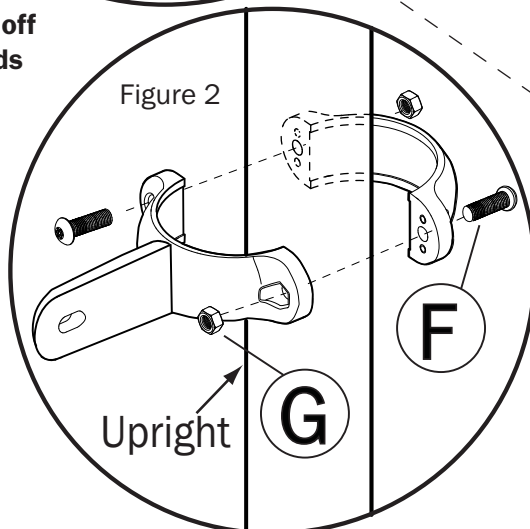

Figure 2
2. From back LEFT side of Slide Hood(A), place flat side of 90° Clamp(B) against Slide Hood(A). Insert Bolt(G) into slot of 90° Clamp(B), through hole in Slide Hood(A) and secure with Flat Washer(E) and Lock Nut (F). See Figure 2.
3. From back RIGHT side of Slide Hood(A), place flat side of Panel Clamp(C) against Slide Hood(A). Insert Bolt(G) into slot of Panel Clamp(B), through hole in Slide Hood(A) and secure with Flat Washer(E) and Lock Nut (F) as before in Figure 2.
3. Close Panel Clamp(B) around upright with arm pointing inward and flat side of arm facing toward Panel. Insert (2) Bolts(F) into Panel Clamp(B) and lightly tighten with Lock Nuts(G). See Figure 2.
2. Insert Bolt(G) and Flat Washer(H) through slot in bottom of Bracket(B), into slot in Deck and secure with Flat Washer(H) and Lock Nut(I). See Figure 2.
3. Repeat Steps 1 & 2 for remaining (2) Brackets(B).
3. With arm of Panel Clamp(B) pointing inward and flat side of arm facing toward Ship's Wheel Panel(A), align holes in Panel Clamp(B) with holes in Ship's Wheel Panel(A). Insert Bolt(H) into Panel Clamp(B), through Ship's Wheel Panel(A) and secure with Flat Washer(I) and Lock Nut(G). See *Figure 2*.
2. Insert Extension Tube(C) into Mounting Bracket(B). Insert Bolt(H) through larger hole in Mounting Bracket(B), through Extension Tube(C) and secure with Lock Nut (I). See Figure 2.